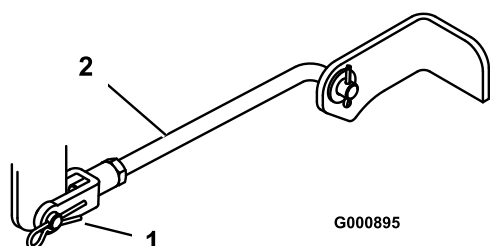

Figure 46
5. Remove the hairpin cotter and clevis pin from the front trunion yokes (Figure 46).
8. Attach the front trunion rods to the tractor with the clevis pins and hairpin cotters (Figure 46).